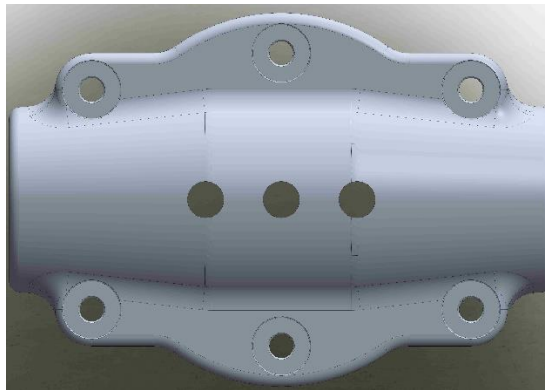

Figure 2. Hub Model 2A0 series Revision "E" and later
- Revision "E" or later 2A0 series hubs with three ½" diameter holes in the hub cover half are not affected. See Figure 2.